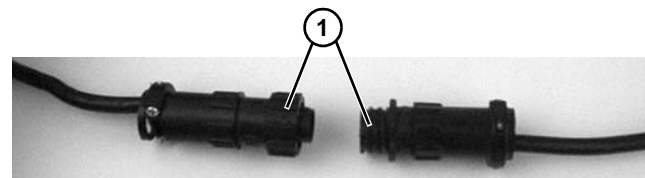

Figure 20
- For DC variable speed motor, unplug motor cord at disconnect (**Figure 20, item 1**).